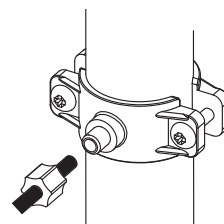

Fig. 7b
- Remove the cut round part from the gasket (1).
- Remove the protective film (2) from the gasket (1). Attach the gasket (1) on the inside of the clamp so that the hole in the gasket aligns with the hole in the clamp fitting.
- Install the clamp on the pipe, aligning the hole in the fitting with the drilled hole in the pipe, and then tighten the bolts (3). The bolts should be tightened evenly so that the two parts of the clamp are parallel.
- Put the plastic nut on the JG drain tube so that the tube extends from the other side of the nut by at least 20 mm (Fig. 7b).